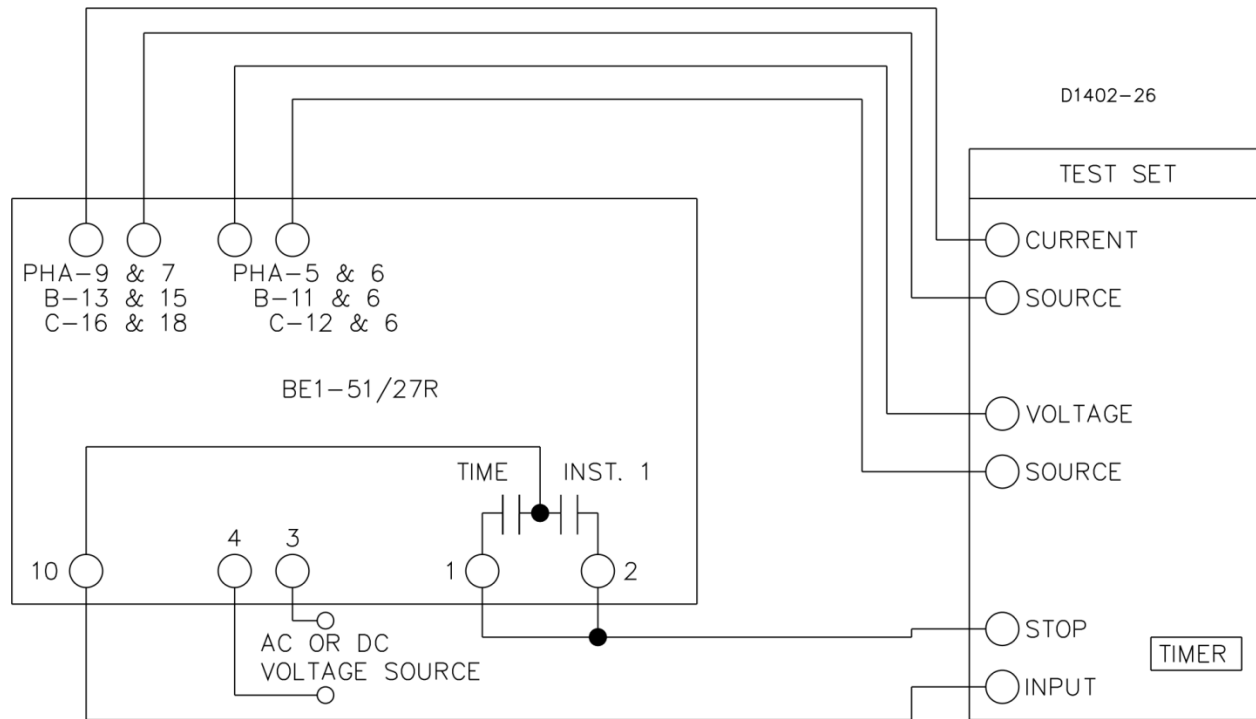

Figure 5-2. Test Setup for Sensing Input Type R or S (Three-Phase Sensing)
- (b) *Sensing Input Type R or S (Three-Phase Sensing)*. Refer to Figure 5-2.